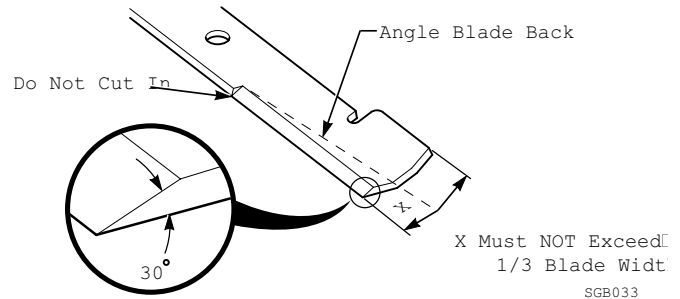

Figure 7-7. Blade Sharpening
DO NOT sharpen the blades beyond 1/3 of the width of the blade. See Figure 7-7.
1. Sharpen the cutting edge at the same bevel as the original. See Figure 7-7. Sharpen only the top of the cutting edge to maintain sharpness.